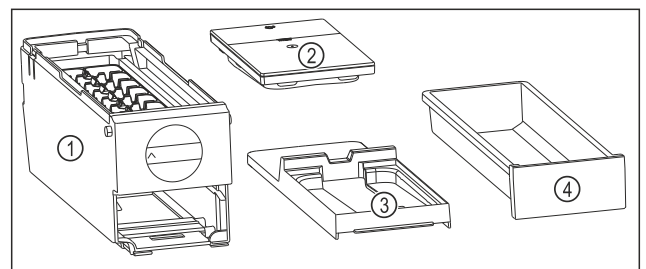

Fig. 122 Components of the EasyTwist-Ice
- ▶ EasyTwist-Ice is dismantled into four parts. (see Fig. 122)
- ▶ Only dismantle the EasyTwist-Ice into the components shown. (see Fig. 122)
- ▶ Clean the EasyTwist-Ice body Fig. 122 (1) as a whole.